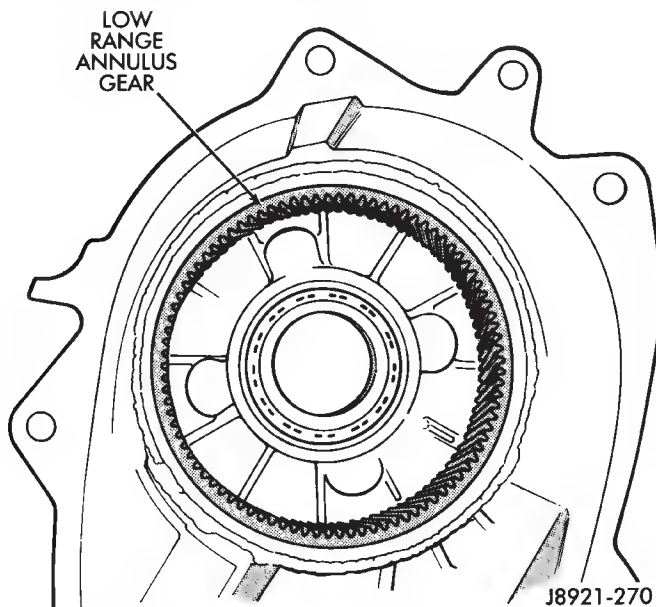

Fig. 32 Inspecting Low Range Annulus Gear
(45) Inspect low range annulus gear (Fig. 32). **Gear is not a serviceable component. If damaged, replace gear and front case as assembly.**